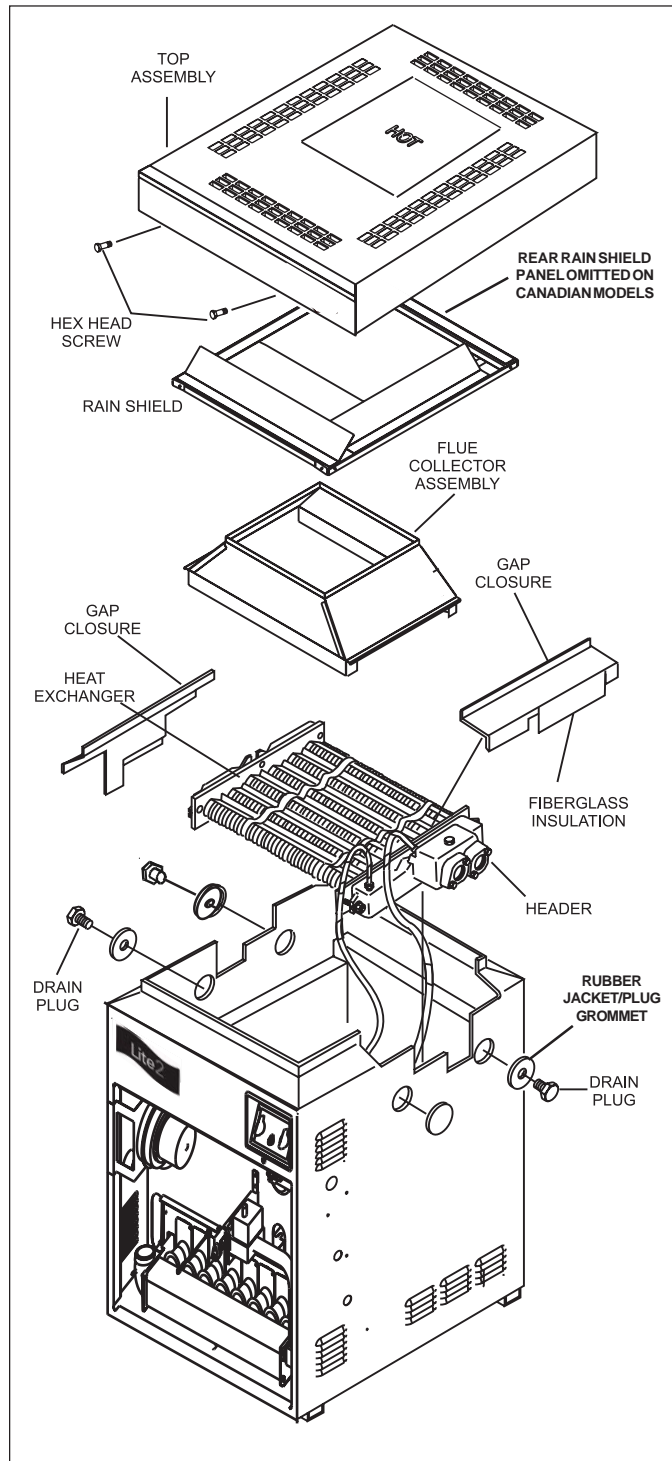

Figure 11. Heat exchanger reversal.
3. Remove all 8 hex-head screws fastening the top and lift the top assembly straight up (see Figure 11).
7. Remove the three rubber jacket/plug grommets and drain plugs (see Figure 11). One is located under the water connections on the right side. The other two are on the left side toward the front of the heater.